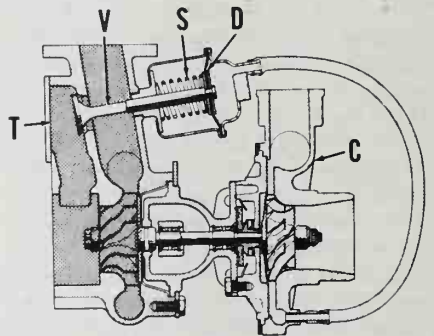

Fig. P1-19 - Cross-sectional view of turbocharger and wastegate used on Models XD2PS and XD2PT.
The turbocharger is equipped with an integral wastegate which regulates turbocharger at a maximum pressure of 60 kPa. The wastegate valve (V - Fig. P1-19) is seated in turbine housing by spring (S) with the valve stem attached to diaphragm (D). When pressure in compressor housing (C) reaches 60 kPa, diaphragm (D) overcomes spring pressure and moves the valve off its seat. Exhaust gases bypass the turbocharger turbine thereby reducing turbine and compressor speed which results in reduced pressure in compressor housing. Spring force seats the wastegate valve (V) and the cycle repeats.